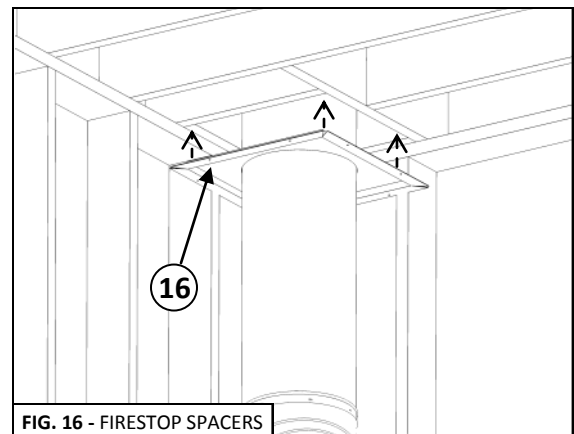

FIG. 16 - FIRESTOP SPACERS
**15) STRAIGHT CHIMNEY SECTIONS** – Before running the straight chimney through the roof, slide the Firestop Spacer (shown in FIG. 16) over the Return Elbow. Now, snap the remaining Straight Chimney sections into place.